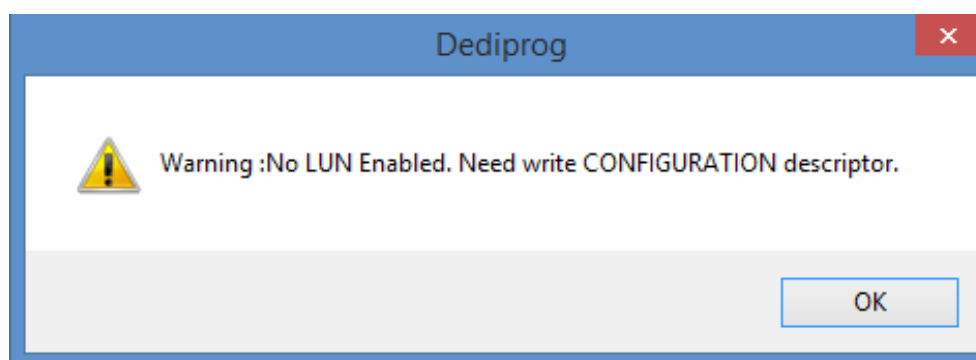

Fig. 5-40
Step 2. When you see a warning message shown as Fig. 5-40, please go to **Descriptors** in the **Config** window, set up the configuration descriptor dialogs, and then partition the UFS and the LUN.